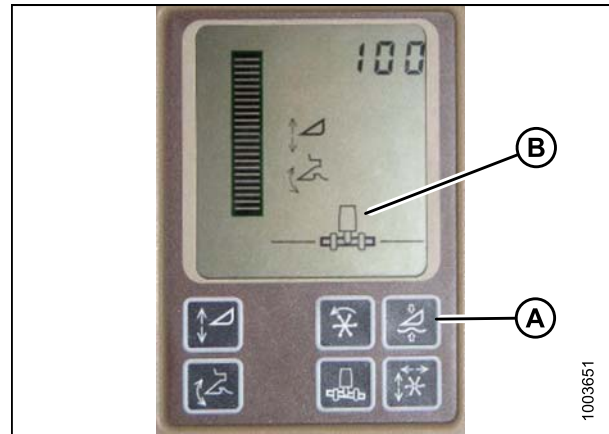

Figure 3.207: John Deere Combine Display
Do **NOT** use the active header float function (A) in combination with the MacDon auto header height control (AHHC)—the two systems will counteract one another. The header symbol (B) on the display should NOT have a wavy line under it and should appear exactly as shown on the Active Header Control Display in Figure 3.207: *John Deere Combine Display*, page 146.